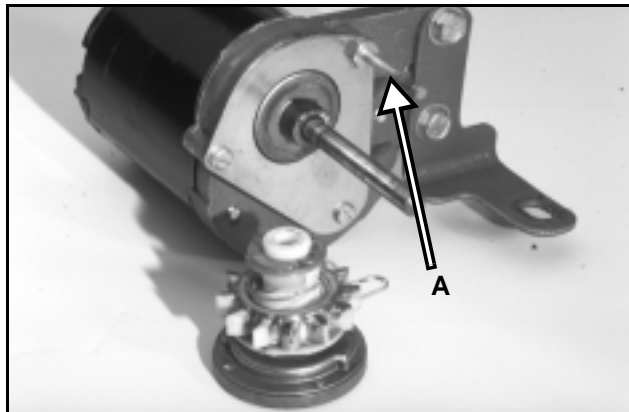

Figure 99
2. Remove the two screws and drag-spring stud (A) that secure the gear cover plate to the motor housing. (See Figure 99.) Remove the cover plate. Note that the plate has "OUT" stamped on the top. During installation "OUT" must face the pinion/clutch assembly.